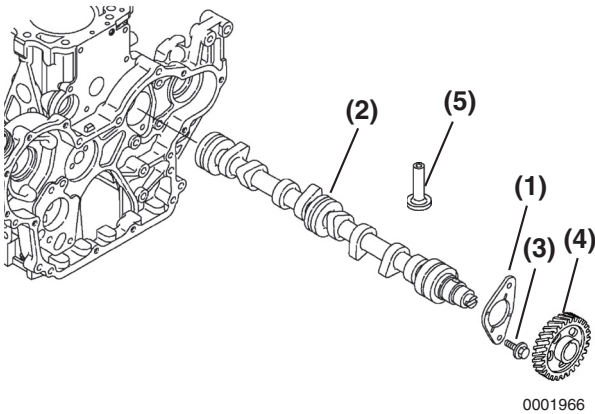

Figure 6-94
2. Remove the two bolts (**Figure 6-94, (3)**) retaining the camshaft thrust plate (**Figure 6-94, (1)**).
3. Rotate the engine in the engine stand so that gravity causes the tappets (**Figure 6-94, (5)**) to drop away from the camshaft lobes.
4. Slowly pull the camshaft (**Figure 6-94, (2)**) assembly out of the engine being careful not to damage the front camshaft bushing.
6. Remove the camshaft drive gear (**Figure 6-94, (4)**) only if the gear or camshaft require replacement. Use a knife-edge puller and a press to remove the gear. The gear is a shrink-fit and will need to be heated to 356° - 392°F (180° - 200°C) to remove.